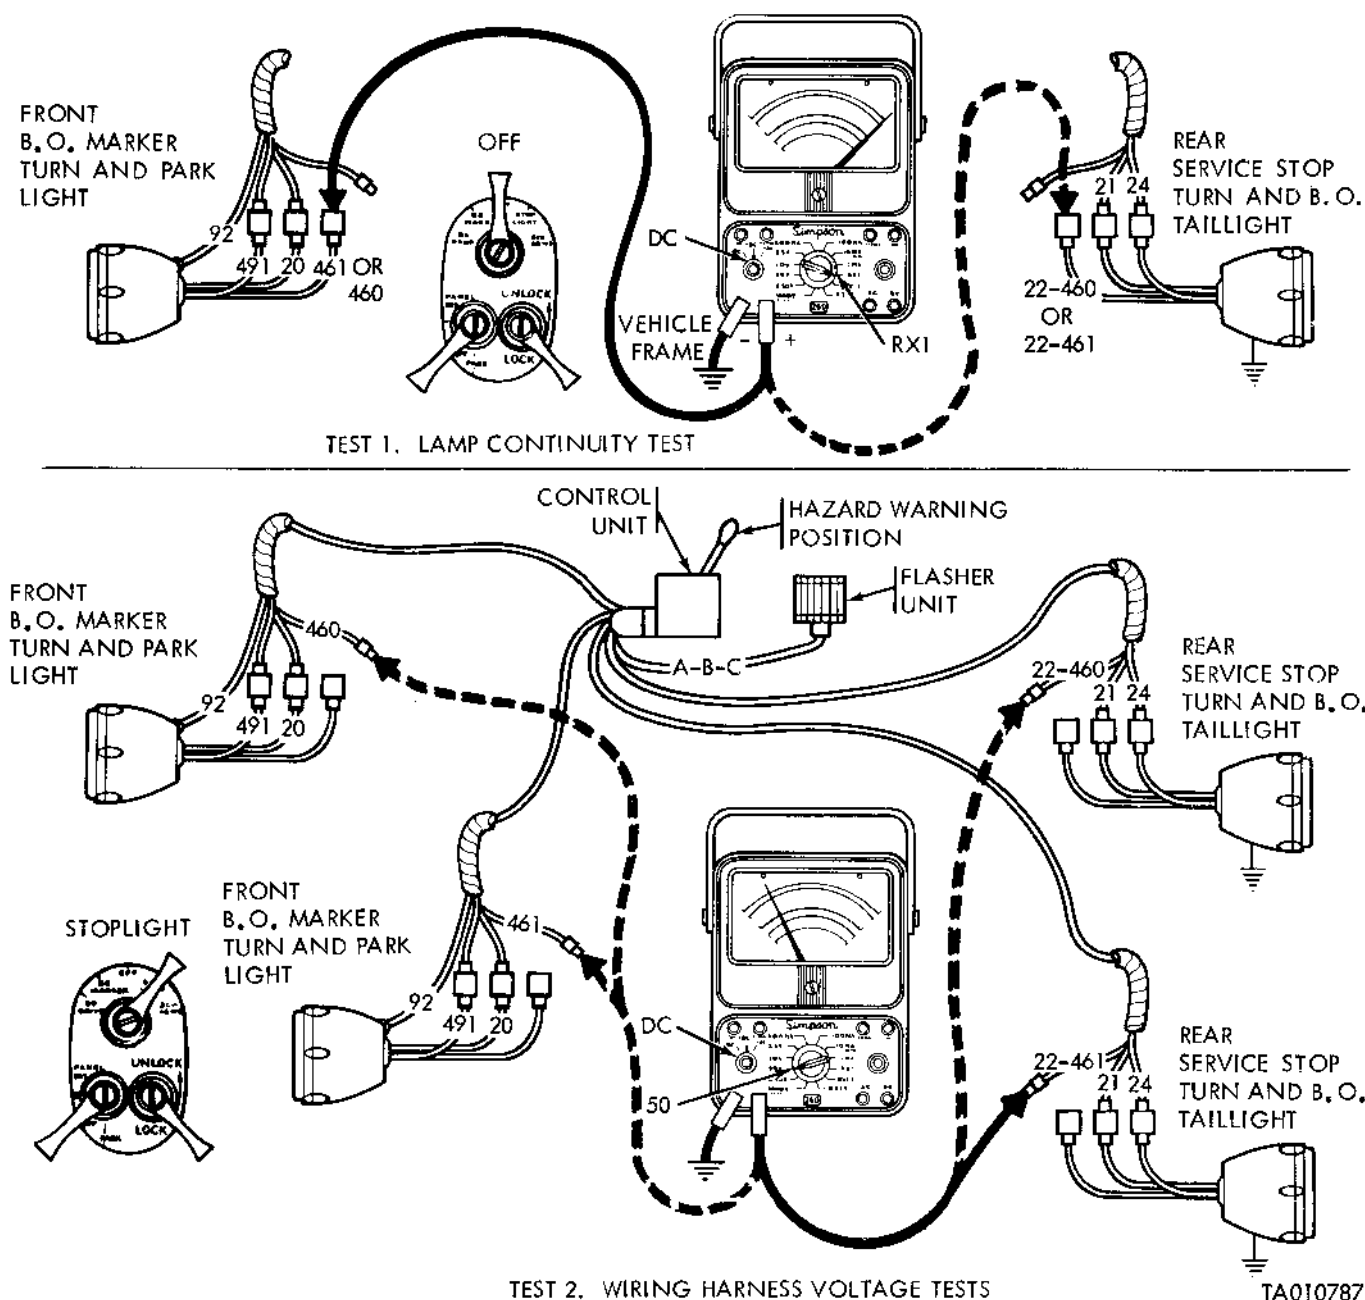

Figure 2-40.1. Directional signal system tests, 1 and 2.
d. *Directional Signal System Circuit (figure 2-40.1) (Tests 1 and 2).*
(1) *Test 1.* Perform the lamp continuity test. Set the main light switch to the STOPLIGHT position. Try all positions of the directional signal control lever, and observe which lights do not light in any position of the lever. Have an assistant depress the brake pedal and observe the stoplights. If the stoplights light, the rear lamps are operational. If the stoplights do not light, or if the front turn indicators do not light in any position of the control lever, turn the light switch to the OFF position and disconnect connector 460, 461, 22-460, or 22-461, corresponding to the defective light (fig. 2-40.1). Set up the multimeter for a continuity test. Clip the black test lead to the vehicle frame. Touch the red test lead to the connector on the light as shown in figure 2-40.1, test 1. If the meter needle deflects to approximately 5 ohms, the lamp is normal and the trouble is elsewhere. If the meter does not deflect at all (infinity reading), replace the lamp and re-test. If the meter still shows infinity or considerably more than 5 ohms, touch the red test lead to the frame ground making sure to scrape through the paint to the bare metal. If the meter does not deflect completely to zero ohms, inspect the ground connection by removing the wire and scraping all metal surfaces bright, and reconnecting. When the light has been restored to 5 ohms, reconnect the connector and test the directional system again. If the trouble still exists, perform the wire harness tests.
(2) Test 2. Perform the wiring harness voltage test. Set up the multimeter for dc voltage tests. Disconnect connectors 460, 461, 22-460, or 22-461, corresponding to defective light (fig. 2-40.1). Set the main light switch to the STOPLIGHT position and the directional signal control lever to the HAZARD WARNING position. Connect the multimeter as shown in fig. 2-40.1, test 2. Clip the